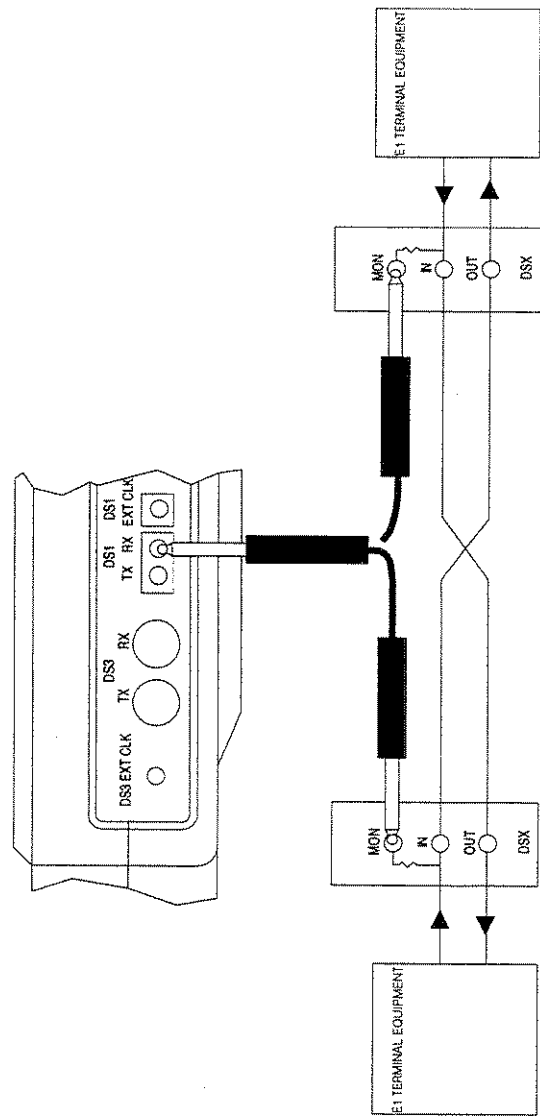

Figure 2.2.A Monitoring an In-Service Circuit
Here is a procedure for monitoring a circuit that is in-service. The setup is illustrated in Figures 2.2.A.
- 3) Connect the test set to the circuit as shown in Figure 2.2.A. Press the HISTORY key to acknowledge any blinking history lights and turn them off.
Here is a procedure for monitoring a voice frequency channel within an E1 circuit. The setup is illustrated in Figure 2.2.A.
4) Connect the test set to the circuit as shown in Figure 2.2.A. Press the HISTORY key to acknowledge the blinking history lights and turn them off. Verify that the PCM-31 or PCM-30 LED is lit.